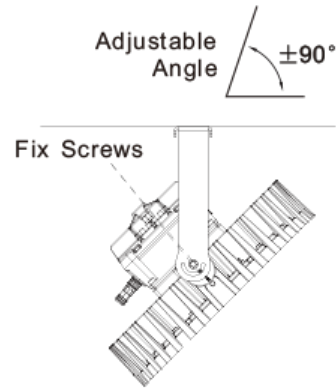

Figure 5
4. After installation, connect the wire of the fixture to the mains according to local wiring regulations, ensure the connection is stable and clean connection. By adjusting the brackets screws, users can adjust 90° to the left or right vertically. (figure 5)